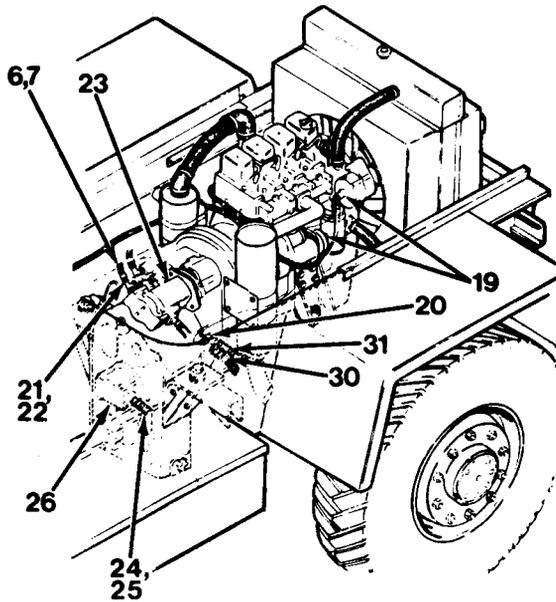
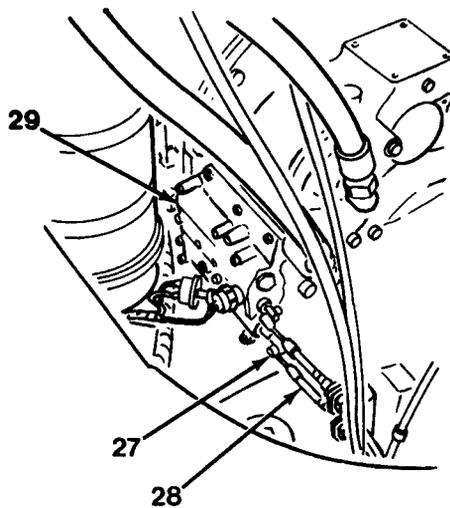
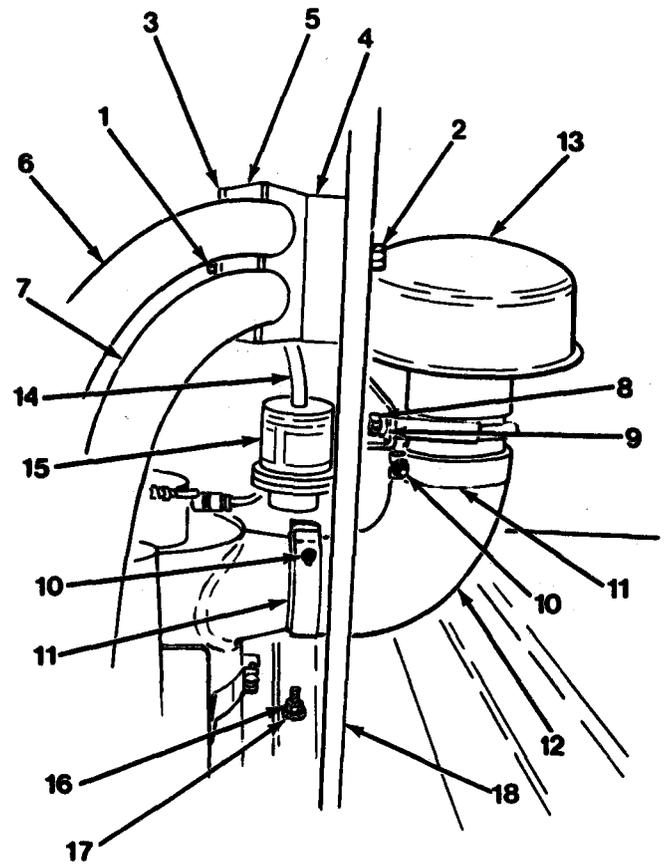

Figure 6-2
Figure 6-3
Figure 6-1
6. Connect transmission oil cooler hoses (30) and (31, Figure 6-2). Using two cotter pins (27), connect two control cables (28) to control valve (29, Figure 6-3) on right-hand side of transmission.
7. Connect two control cables (28) in their mounting bracket and tighten two jam nuts on each cable (28). Check and adjust cable (refer to page 17-49).
8. Connect hoses (24) and (25) to ground driven steering pump (26) and hoses (20), (21) and (22) to main hydraulic pump (23, Figure 6-2) (refer to pages 13-45 and 13-38).
9. Connect hoses (7) and (6) to charge pump on top right-hand side of transmission.
10. Connect all electrical connections (19) to temperature and pressure sending units, alternator and starter. Secure all harness assemblies with mounting hardware.
13. Install hood support (18), six washers (17) and nuts (16, Figure 6-1) on frame.
14. Connect restriction indicator hose (14) to restriction indicator (15).
15. Install stack cap (13), 90-degree elbow (12) and T-clamps (11) as an assembly and tighten nuts (10). Install two lockwashers (9) and nuts (8). Install two clamps (5), spacer (4), plate (3), capscrew (2) and nut (1) on hoses (6) and (7).
4. Using a 17 mm socket, remove drain plug (1) and drain oil from oil pan (2, Figure 6-1) into a suitable 11 quart (10.40 L) (or larger) container.
6. Align side of engine (3) to mounting bracket (4) of rollover stand (5).
7. Using a 19 mm socket, install four capscrews (6) and secure engine (3) to rollover stand (5). Torque four capscrews (6) to 57 lb-ft (77 N•m).